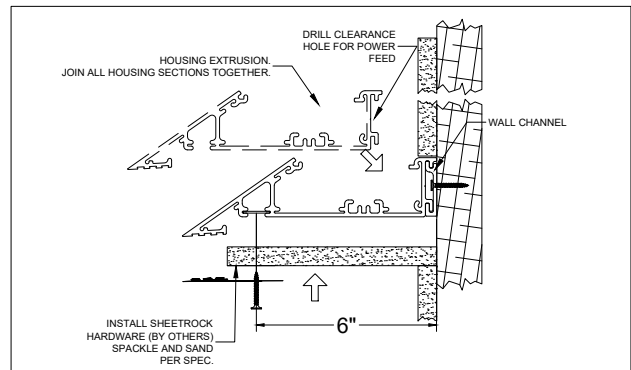

Figure 2. Housing extrusion installation.
2. Once the wall channel is in place, drill a clearance hole in the back of the housing to match the hole on the wall channel for the power feed. Lift and tilt the housing extrusion and install it into the wall channel, see figure 2 for more details. Secure the housing to the wall channel with screws (not provided by Picasso Lighting). Secure the housing in place from the bottom with a screw and install sheet rock hardware previously to spackling and sanding.